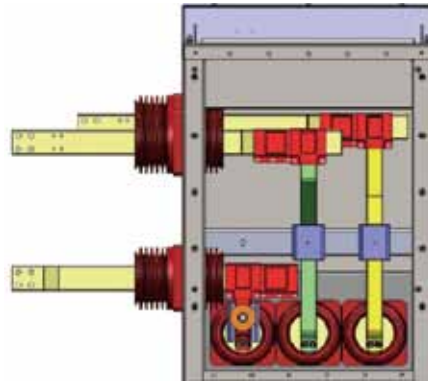

Figure 6/1: Busbar after opening the rear cover
- Remove the rear covers on the busbar compartment, as well as the same on the adjacent panels. Now the busbar is visible. (see figure 6/1)